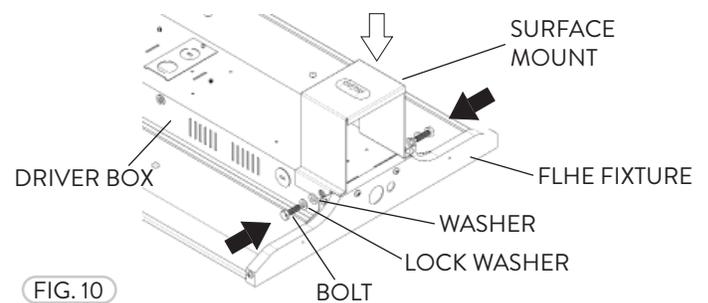

FIG. 10
- 2 Once the Surface Mounts are installed onto the ceiling/surface and properly secured, place fasteners through the holes on each side of the FLHE Driver Box (Fig. 10). Fasten the Bolt, Lock-Washer and Washer to the FLHE fixture.